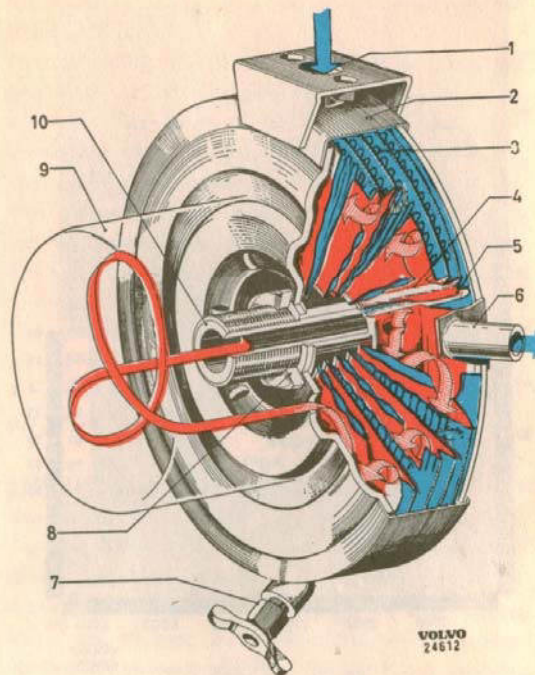

Fig. 1-6. Oil cooler
The oil cooler (Fig. 1-6) is fitted between the oil cleaner and the cylinder block and consists of an inner part for the oil which is surrounded by a cooling jacket. The engine cooling water is taken through the cooling jacket. When the oil passes through the cooler on its way to the oil cleaner, part of the heat from the oil is conducted away by the cooling water. The cooling water cannot go the nearest way from the inlet (1) to the outlet (6) but is forced to circulate round the oil cooler by means of the stop plates (5). The oil is pressed through the pairs of disks one after the other due to the stop plates (4) and then passes out finally to the oil cleaner.
4. Nipple (see also 10, Fig. 1-6)